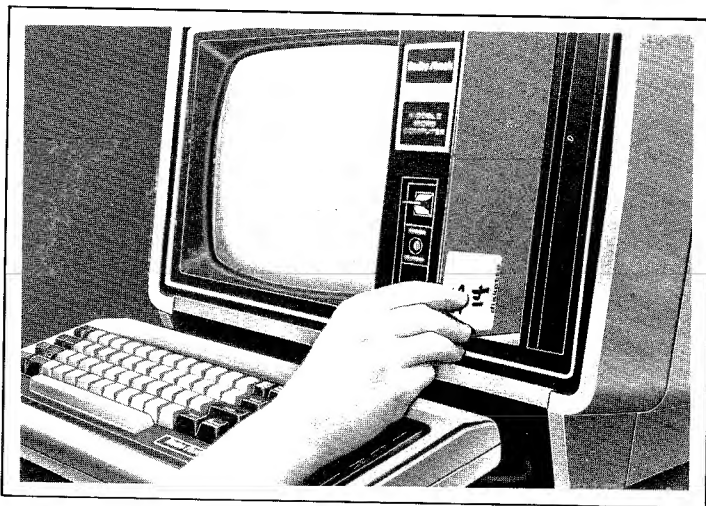

Figure 5. Inserting a diskette (Label might extend vertically across the diskette).
1. If the drive door is closed, open it by pressing the release bar until the door springs open. (Refer to **Figure 5**.)